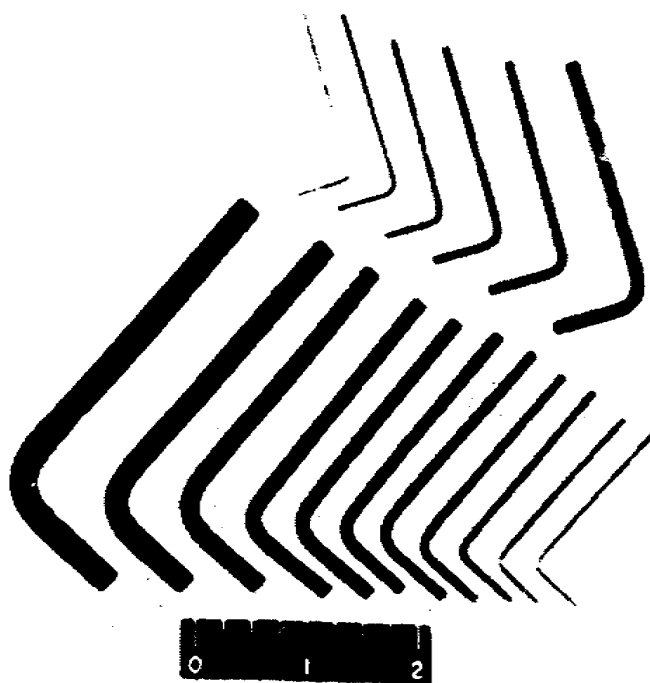

Figure 9. Wrenches: key sets (allen-type and spline-type)
- (4) Key sets (fig. 9). Two types of key sets come in a TK-105/G. One set of 12 is the allen type in assorted sizes. The other set consists of six spline-type keys of assorted sizes. Both types of wrenches are often referred to as setscrew wrenches, or keys. The cross section of an allen wrench is hexagonal, to fit the hexagonal recess in the head of an allen screw. Examination of a spline-type wrench, or spline key, reveals six grooves or slots cut longitudinally in the shaft and equally spaced around the shaft. Similar to the allen screw and allen wrench in principle, the spline wrench fits into the internally splined recess in the head of a spline screw. The spline-type design is not so commonly used as the allen design, so the spline keys in this electronic repairman's tool kit have been limited to the six sizes shown here.